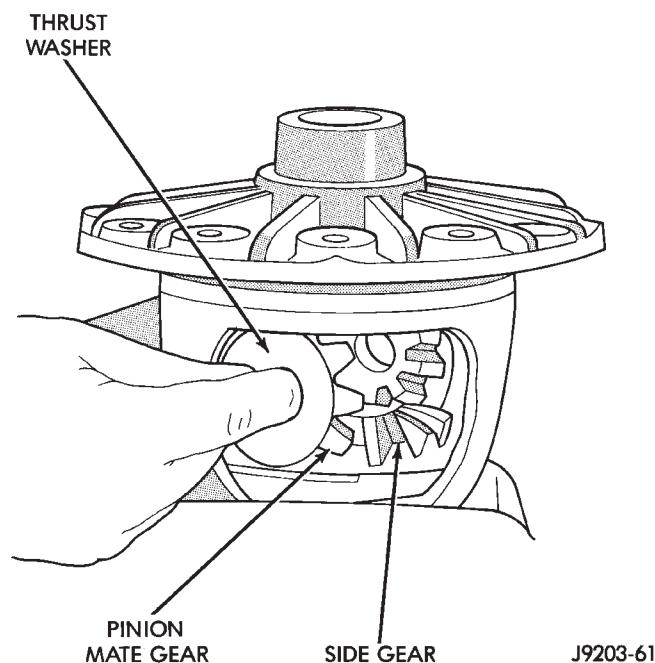

Fig. 32 Pinion Mate Gear Removal
(6) Rotate the differential side gears and remove the pinion mate gears and thrust washers (Fig. 32).
(7) Remove the differential side gears and thrust washers.
(8) Remove the case from the vise.